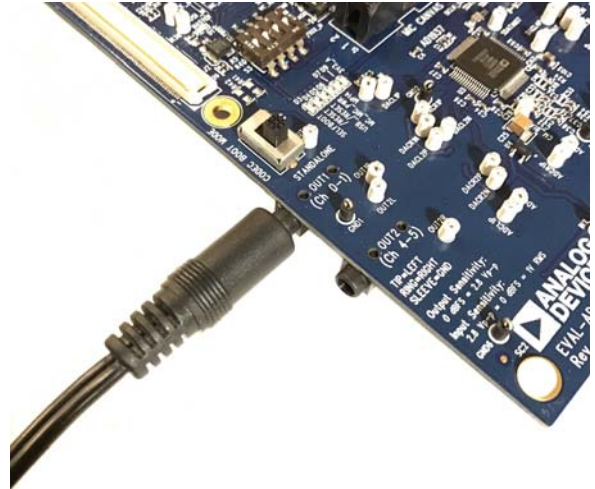
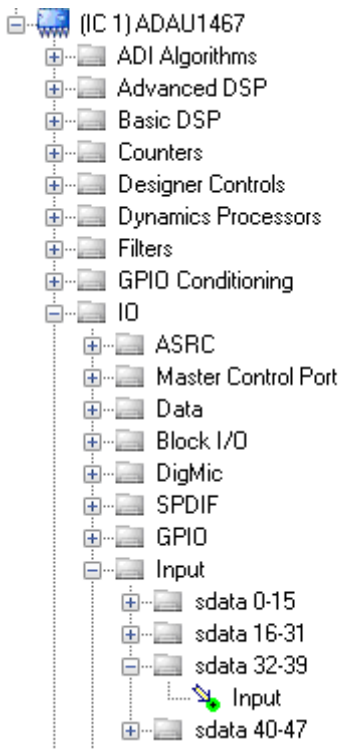
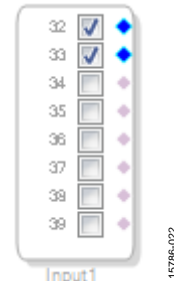

Figure 13. Analog Stereo Output Connection
Figure 21. Input Block Selection
Figure 22. Input Block
Figure 12 shows the input source connection. Figure 13 shows the output connection. Figure 14 shows the location of the connectors on the board.
- a. To add an **Input** block, from the (IC1) ADAU1467 > IO > Input > sdata 32-39 folder, click **Input** (see Figure 21) and drag it into the project space to the right of the toolbox (see Figure 22). By default, Channel 0 and Channel 1 are selected. This configuration matches the analog audio source hardware connections shown in Figure 12 and Figure 13; therefore, no modifications are required.